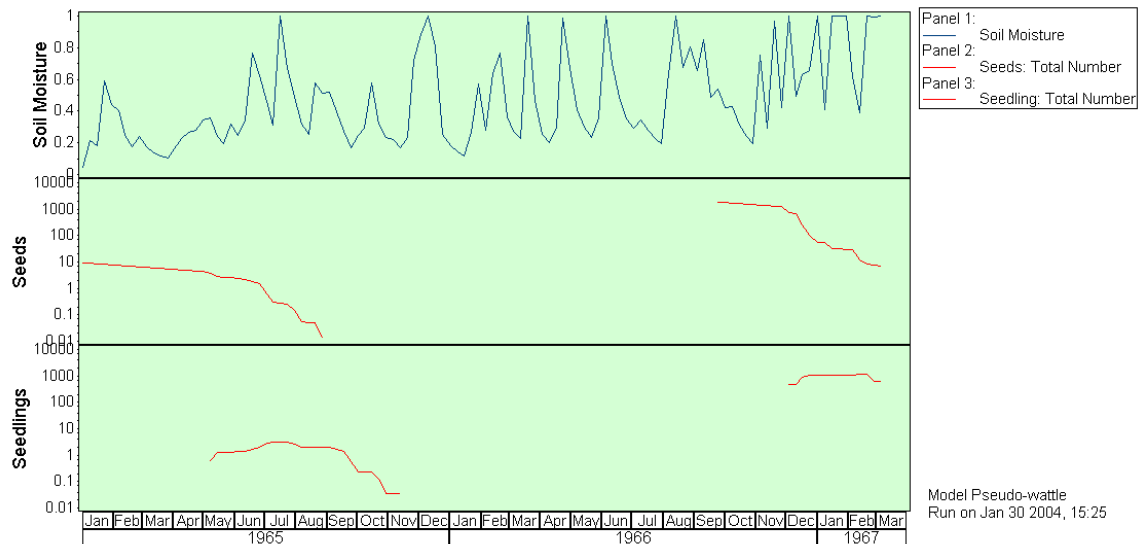

Figure 4.5 Pseudo-wattle model. Soil moisture included as a determinant for germination (Threshold 0.3). Run length 800 days.
2. The '**Model**' window should resemble Figure 4.5